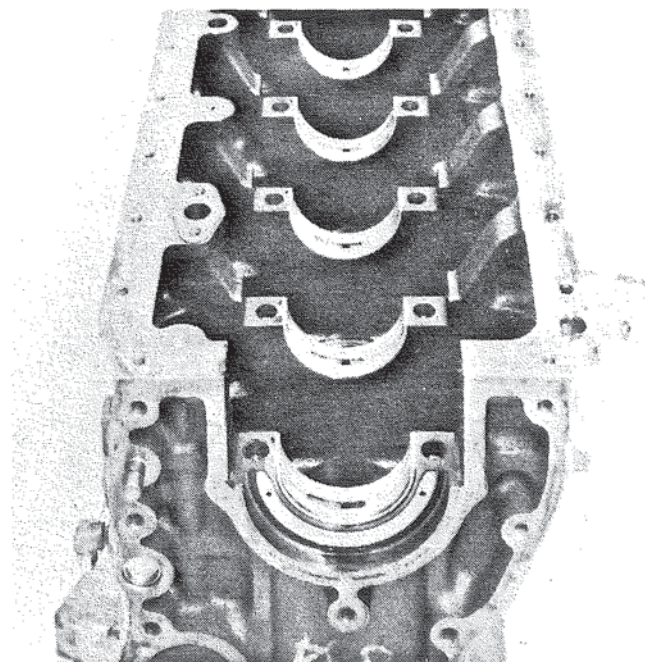

Figure 48. Installing Upper Main Bearings.
3. Install upper main bearings. Install upper thrust bearings with pins to rear (flywheel end) of No. 7 bearing. Figure 48.